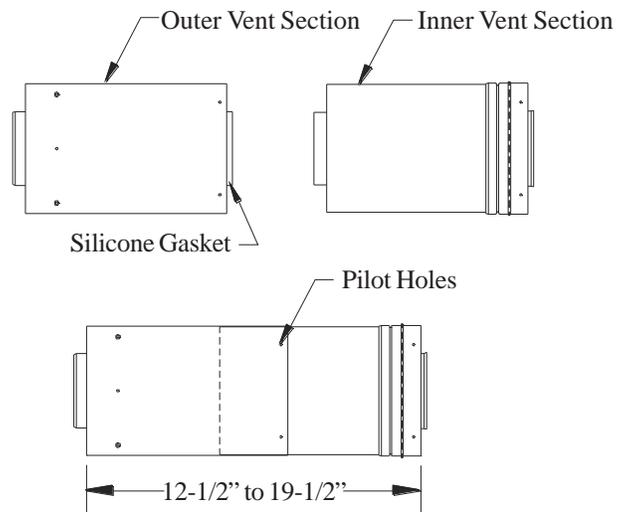

Fig 8. (Adjustable Length)
The DT-M Adjustable Section (AJ) serves as a variable length between other components when specific lengths cannot be utilized. The AJ has an installed length that adjusts from 12.5" to a maximum of 19.5" (see Fig. 8).
1. Before assembling, moisten the gasket on the Outer Vent Section with silicone lubricant provided (see Fig 8).
3. Secure the two sections together by installing the self-tapping screws provided, through the pilot holes in the Outer Vent Section, and into the Inner Vent Section (see Fig 8).